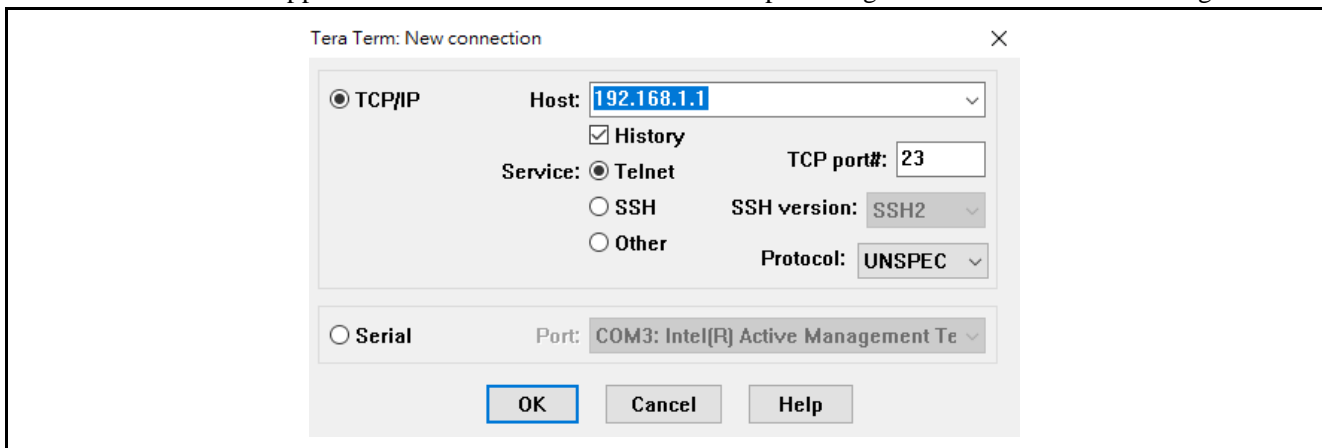

Figure 6 The Procedure to Configure Terminal Tool Settings
7. Start the Tera Term application and establish a connection on the pre-configured IP address as shown in Figure 6.